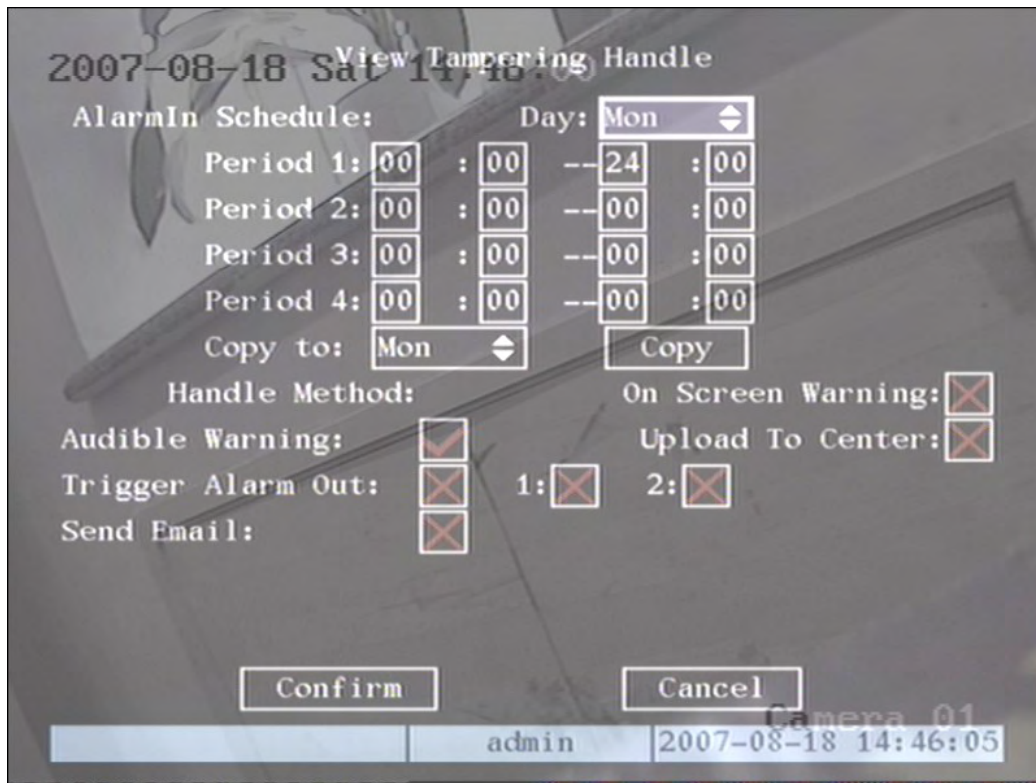

Fig 5.15 View tampering handle setup
Step 5: View tampering alarm setup In “Advanced settings” menu, move “Active Frame” to “Policy” button, press 【ENTER】 key to enter into “View Tampering Handle” menu: Shown as fig 5.15